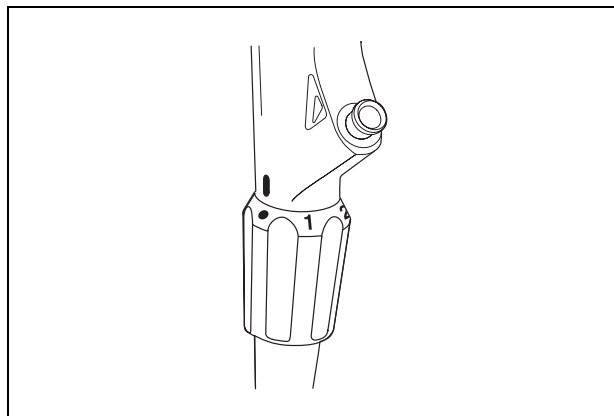

Figure 3.4
1. Confirm that the marks (“●”, “1”, “2”, “3”) on the flexibility adjustment ring and the “” mark at the bottom of the grip section are clearly visible (see Figure 3.4).